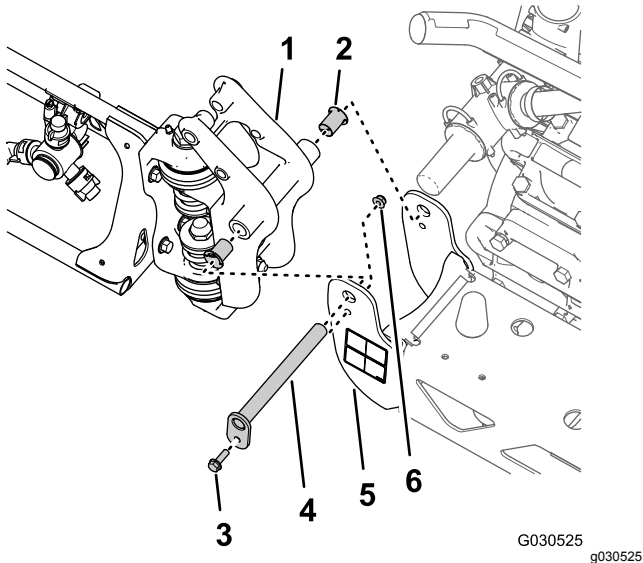

Figure 42
1. Remove the flange bolt (5/16 x 1 inch) and flange locknut (5/16 inch) securing the pivot pin to the pivot bracket (Figure 42).
2. Remove the pivot pin from the pivot bracket for the center-spray section and the pivot fitting for the outer-spray section (Figure 42).
3. Separate the outer-spray section from the center-spray section and remove outer section from the machine (Figure 42).
4. Remove the 2 nylon-flange bushings from the pivot fitting of the outer-spray section (Figure 42).